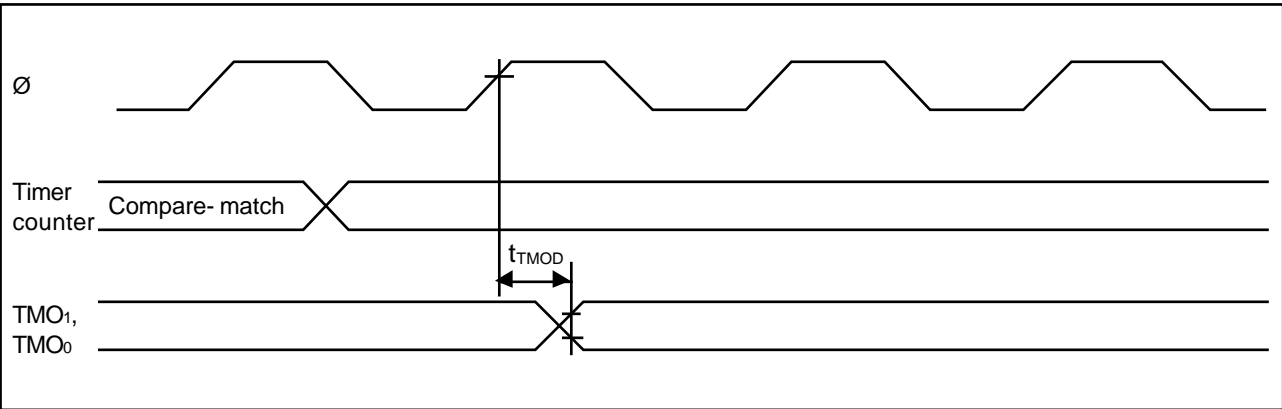

Figure 15-13. 8-Bit Timer Output Timing
15.3.4 8-Bit Timer Timing	Figures 15-13 to 15-15